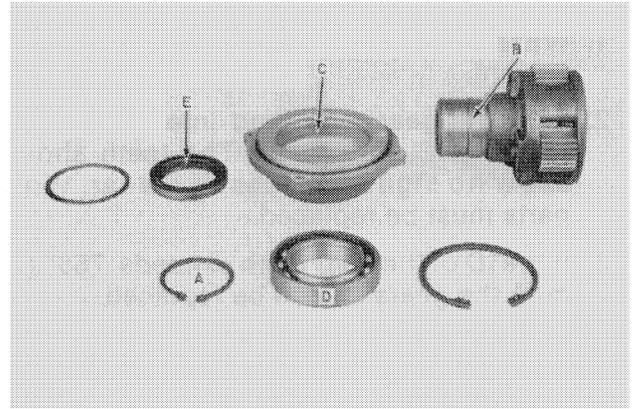

FIGURE 17
5. Remove retaining ring, A, Figure 17.
6. Remove carrier and gear assembly, B, Figure 17, from front plate, C. The carrier shaft is a light press fit in bearing, D.
3. Press carrier assembly, B, through bearing in front plate and install retaining ring, A, Figure 17.
4. Press shaft seal, E, Figure 17, in front plate and install retaining ring as shown in Figure 15.